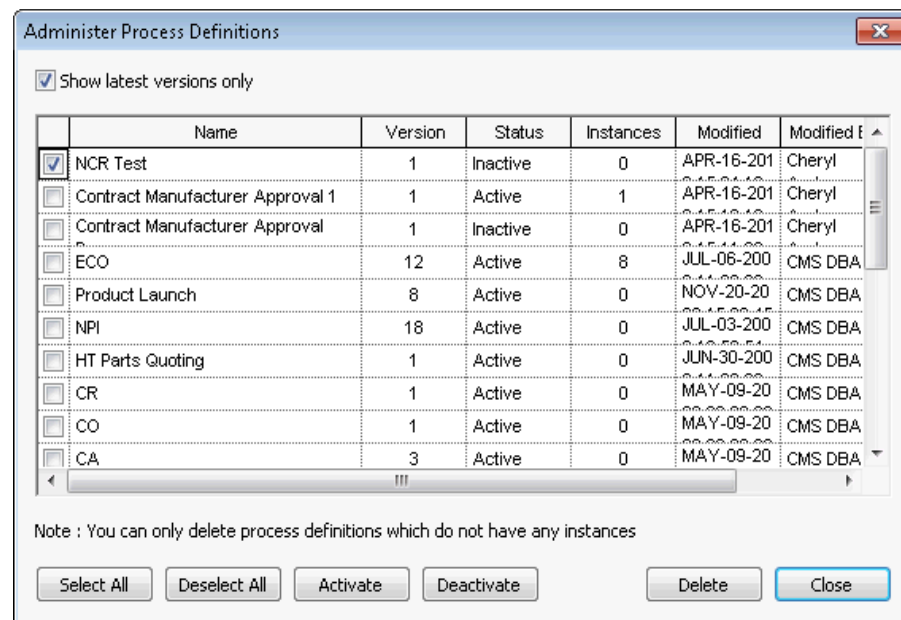

Figure 2-7: Administer Process Definition Window
1. In the Process Editor window select **Administer Process Definitions** from the **Process** menu. The window appears as shown in Figure 2-7.